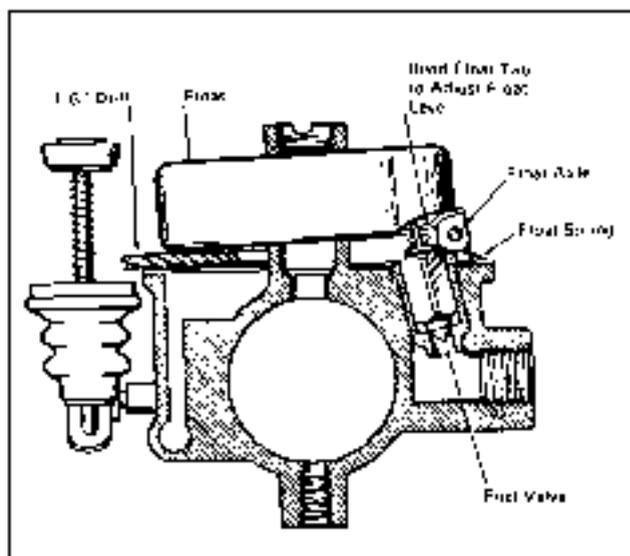

Figure 3-70.
9. Insert fuel valve assembly (14) in fuel valve seat. Assemble float spring (13) and float (12) and install float pin (11). Be sure that fuel valve clip is attached to the float tab. If necessary, bend clip to provide minimum clearance with tab (approximately .010 in.)
10. With the carburetor inverted (inlet needle seated), bottom surface of float should be $3/16$ " from gasket surface at point opposite hinge. A $3/16$ " drill can be used as a gage as shown in Figure 3-70. If adjustment is required, use long nosed pliers to bend the tab that contacts the fuel valve. Be careful to avoid damage to the fuel valve or seat.
11. Install throttle stop screw (18) and spring (19). Adjust screw to open throttle slightly but not far enough to uncover the No. 2 idle discharge hole.
12. Install idle mixture needle (16) and spring (17). Screw needle IN until it seats lightly against the No. 1 idle discharge hole, then back it out 1-1/2 turns as a preliminary idle adjustment.
1. Carefully guide cup of accelerating pump (19) into pump well. Seat accelerating pump boot around top of accelerating pump boss.
2. Assemble washer (17) on main jet and discharge tube (18) and assemble O-ring (18) in groove near end of discharge tube.
3. Hold carburetor inverted (with float up) and rotate the long end of the spring upward so that it is against the float. Carefully position the fuel bowl on the throttle body releasing the float spring so that the long end of the spring presses against the side of the bowl (Refer to Figure 3-70). Be sure that the accelerating jet fits properly in the hole in the throttle body.
4. Assemble main jet and tube (6) through hole in bottom of bowl and into throttle body boss.
5. Assemble gasket (5) on idle tube (4) and insert tube in throttle body. Carefully guide tube through bore and into discharge tube on opposite side of venturi. Tighten idle tube and main jet.
6. Attach accelerating pump lever (2) on top of accelerating pump. Other end of lever goes on rectangular end of throttle shaft. Install pump lever screw (1) in end of throttle shaft.